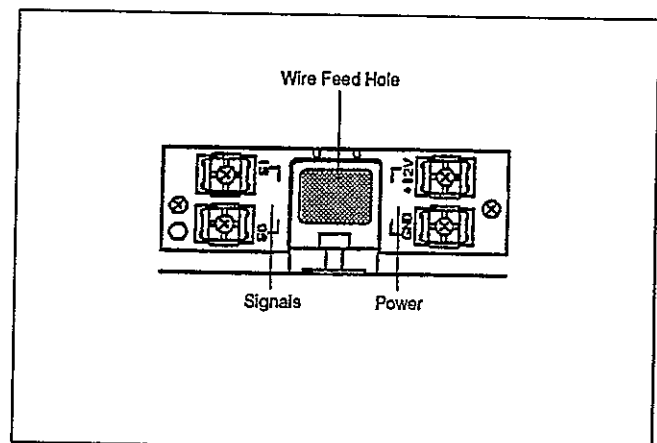

Figure 3 - Terminal Connections
3. Attach the four control wires (+12V, NEG, S1 and S0) to the terminals as shown in Figure 3. Use 22 AWG or larger solid or stranded wire. Stranded wire offers lower resistance and additional protection against breakage. Do not exceed a wiring distance from the remote receiver to the control panel of 300 feet.